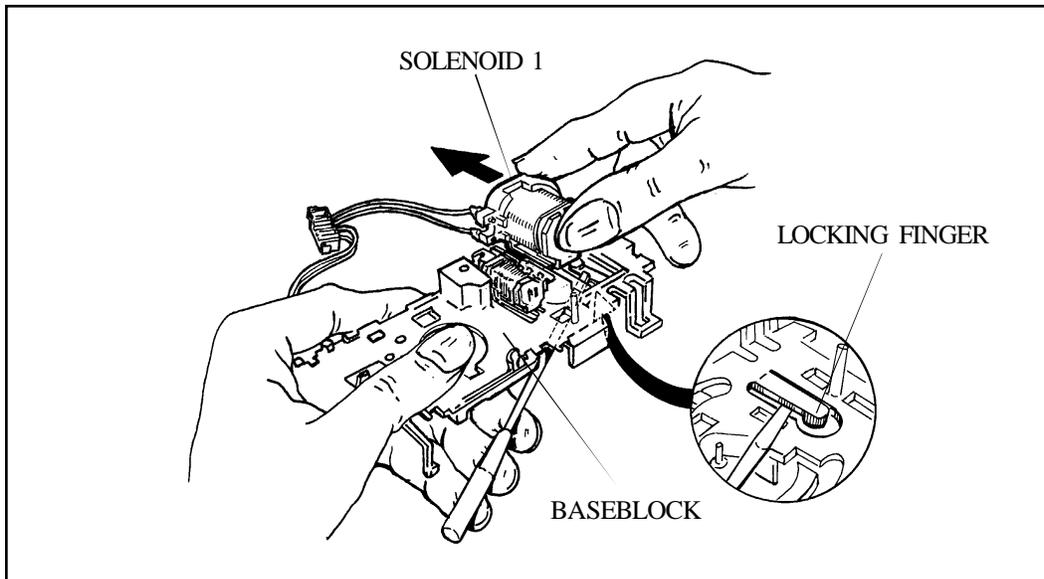

Figure 3-43. Removing Solenoid 1 from Baseblock
- n. Remove Solenoid 1 by pushing it upwards out of the Baseblock. Depressing the locking finger slightly on the Baseblock will help (Figure 3-43).